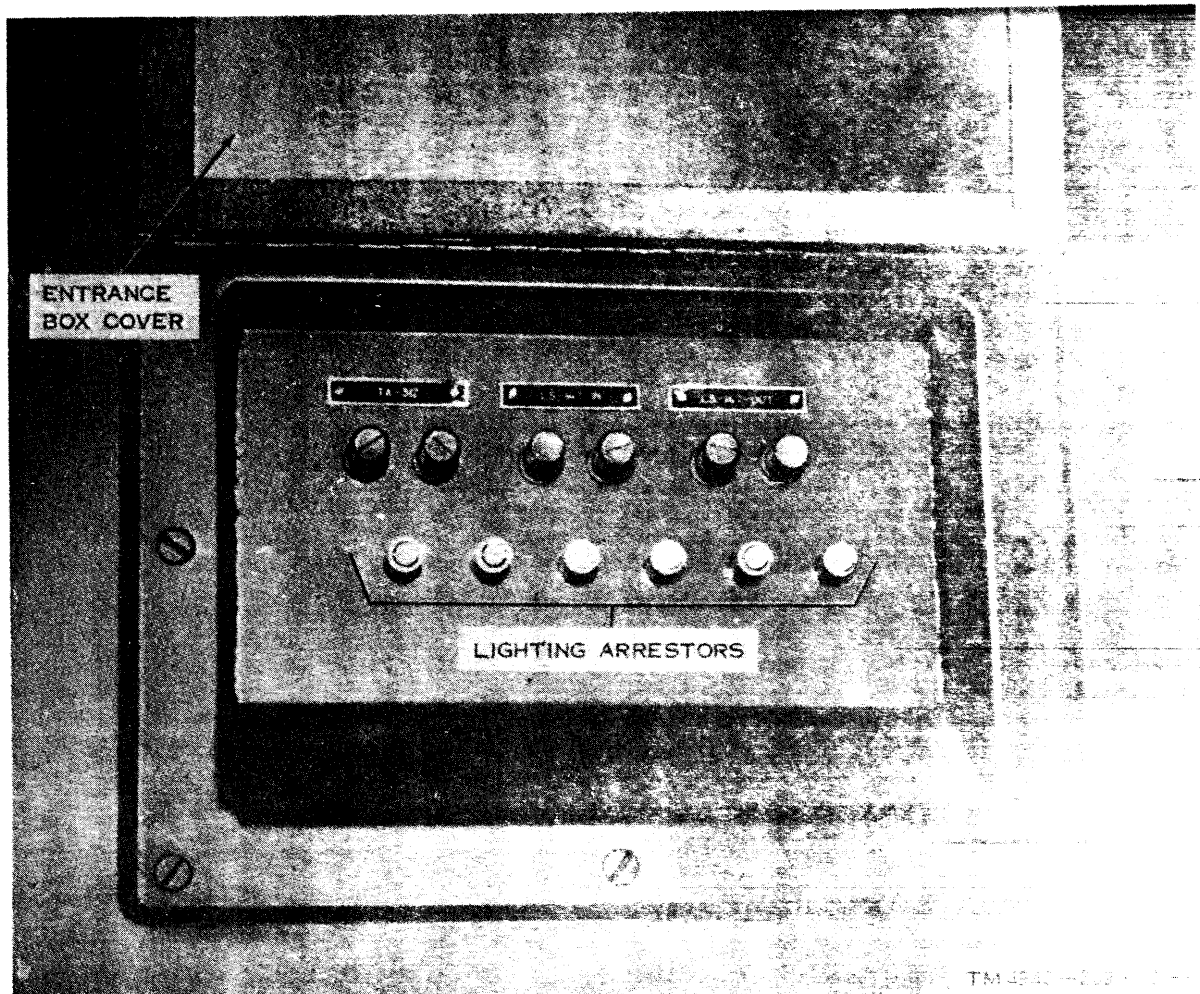

Figure 1-5. Repair van and storage van, binding post entrance box.
d. *Binding Post Entrance Box* (fig. 1-5). Each van is equipped with a binding post entrance box to facilitate connection of the van telephone and intercommunication (intercom) circuits to the area communication network. Each binding post pair is protected by lightning arresters.
*d. Binding Post Entrance Box* (fig. 1-5). The binding post entrance box contains three pairs of binding posts that are connected to the TA-312/PT (1 pair) and LS-147C/FI (two
*e. Binding Post Entrance Box.* The binding post entrance box (fig. 1-5) is described in paragraph 1-9d.